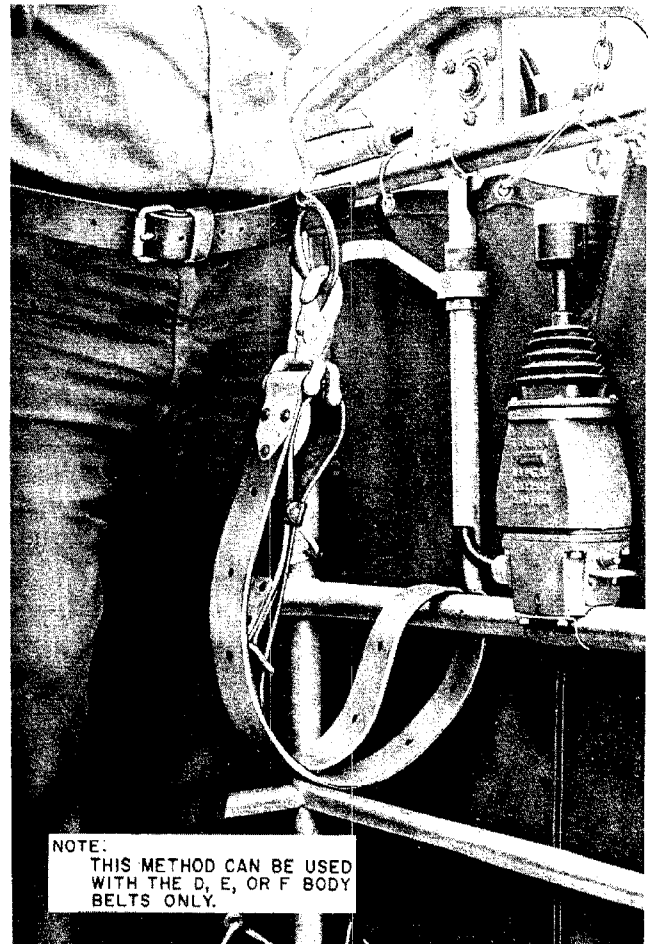

Fig. 11—Method of Using D, E, or F Body Belt With Safety Strap in TELSTA Aerial Lift
4.05 A person working from the basket of an aerial lift shall secure himself in the basket. When working from a SERVI-LIFT or SKYWORKER aerial lift, the workman shall secure himself by attaching his safety strap to the eye (Fig. 10) provided in the basket. When working from a TELSTA aerial lift, use the method shown in Fig. 11.